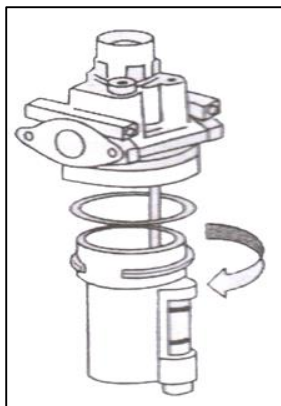

Fig. 27
- Check the oil level on the AFRL. If the oil level is low, add SAE-30 lubrication oil to fill line as required (Fig 27).